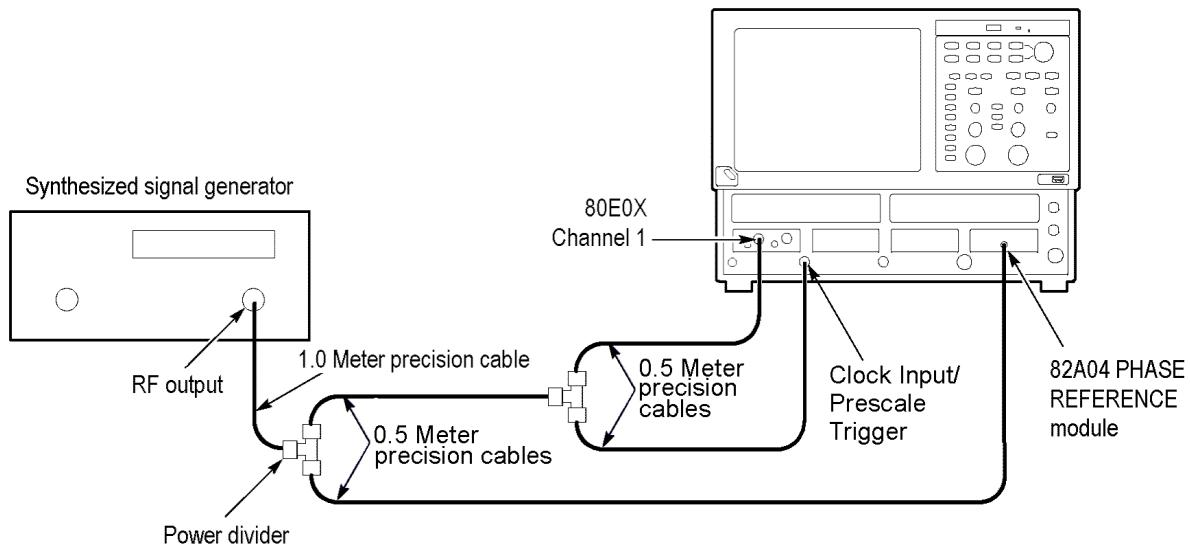

Figure 14: Phase corrected, Clock Eye external triggered jitter test setup
3. Connect the test equipment (See Figure 14.)